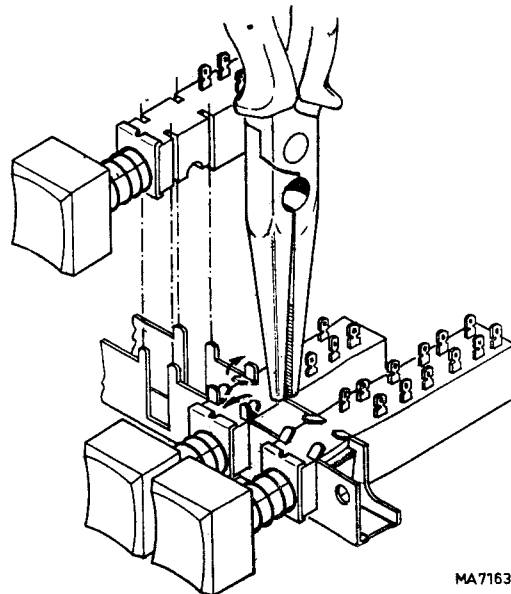

Fig. 3.7. Replacing a push-button switch
- Straighten the 4 retaining lugs of the relevant switch as shown in Fig. 3.7.